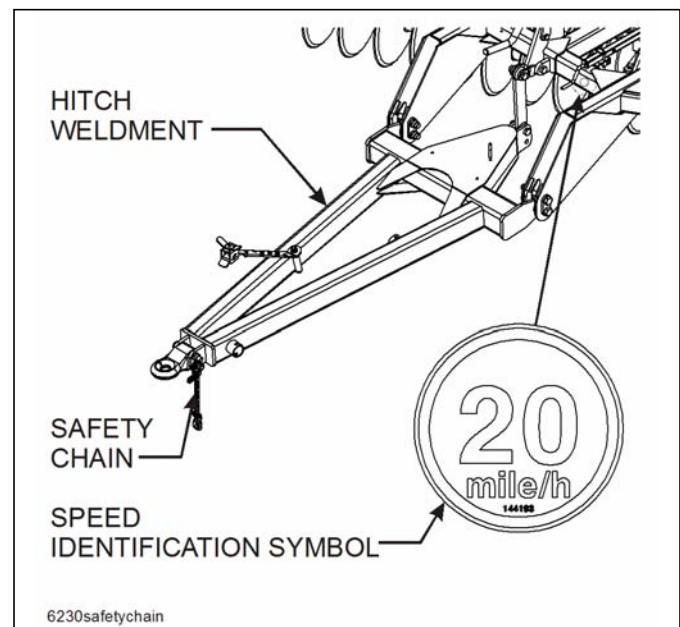

Figure 4-19: Hitch, Speed Identification Symbol, and Safety Chain
2. The 7431 should be transported only by tractor required for field operation. The implement weight should not exceed more than 1.5 times the tractor weight. Maximum transport speed for the 7431 is 20 mph for the implement and is designated on the speed identification symbol located on the front of the implement (See Figure 4-19.)
- b. Attach the safety chain to the tractor drawbar (See Figure 4-19.) Provide only enough slack in the chain for turning. Do not use an intermediate chain support as the attaching point for the chain on the tractor. Do not pull the implement by the safety chain.